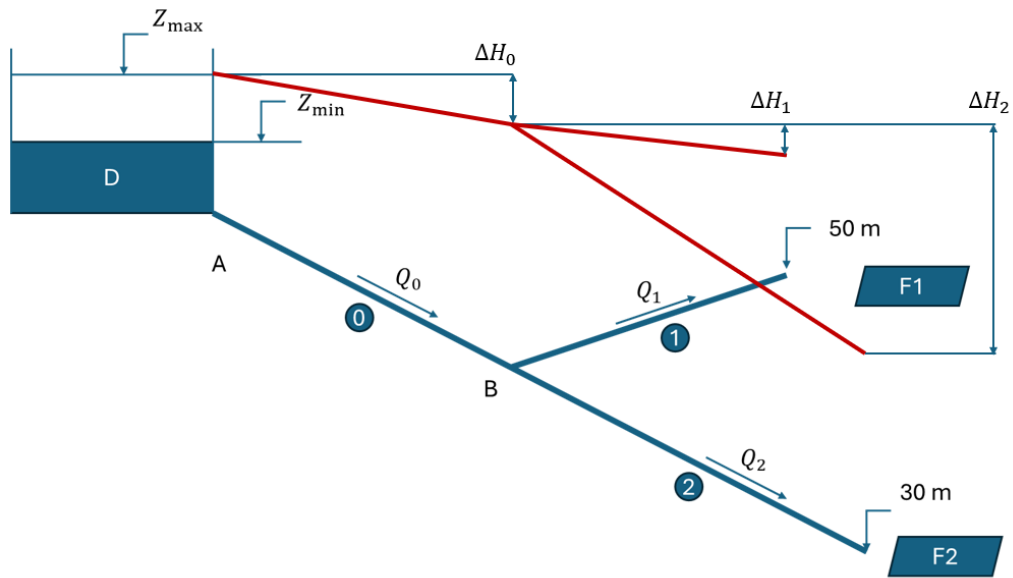

Figure 3: Energy gradient lines (red). This figure is when  $z = z_{max}$
► The energy gradient lines are represented in red in Fig. 3. In order to draw them, the  $\Delta H$  need to be computed for  $z = z_{max}$  and  $z = z_{min}$ .